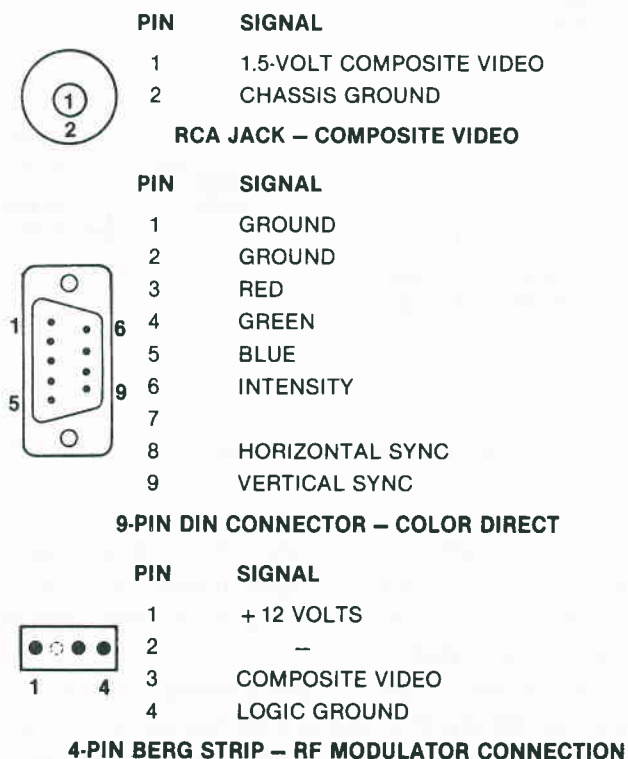

Fig. 2-22. The signals present on the pins of the three connectors of the color/graphics adapter card.
Like the monochrome card, the color/graphics card has circuitry on it to handle alphanumeric text. In addition, it can handle bit-mapped graphics. The card produces three distinct video outputs. One output is composite video. It is available at an RCA connector on the rear of the card. Another output is a set of signals suitable for a red-green-blue (RGB) monitor, available on a 9-pin connector just below the RCA jack. The RGB output consists of the two synchronization signals, an intensity signal, and the red, green, and blue color signals. The third video output is in the chassis on the adapter card. It's a 4-pin Berg strip providing a connection point for a radio-frequency (RF) modulator. This provides the composite video signal to let you use a standard television with the PC. The signals on each connector are shown below in Fig. 2-22.